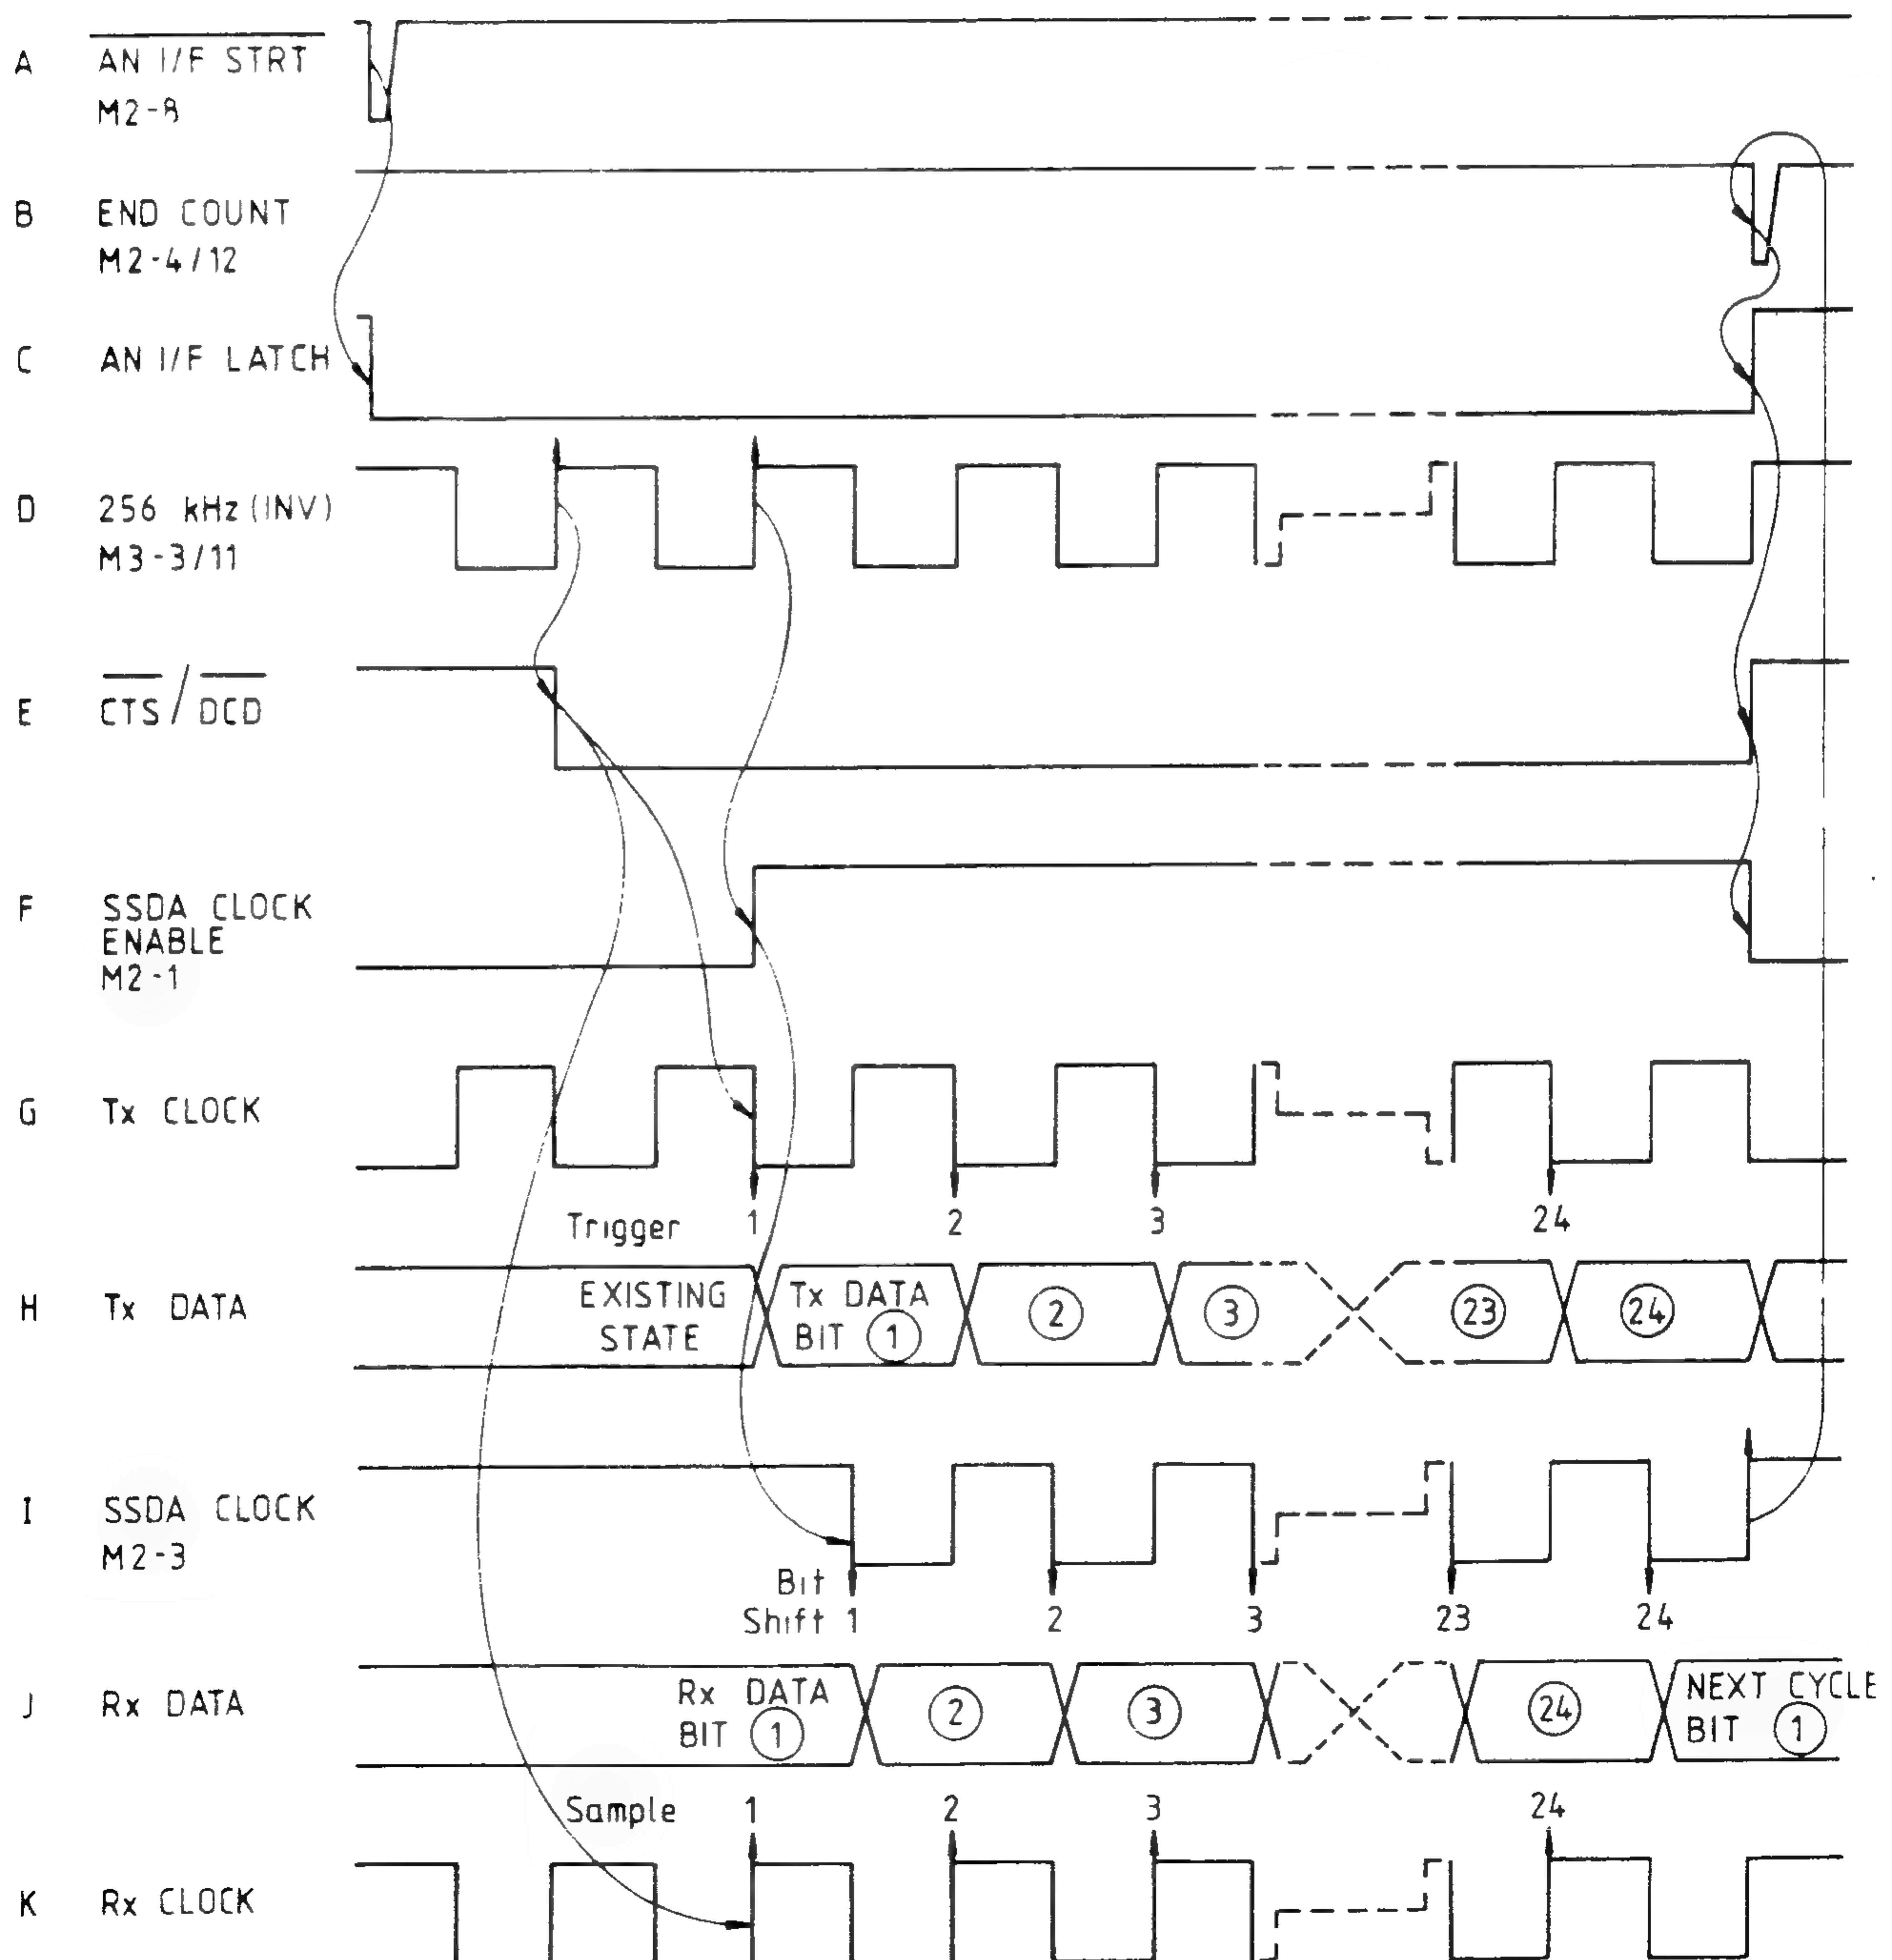

FIG. 6.16 SSDA CLOCK GENERATOR WAVEFORMS
(Fig. 6.16)
(Refer to Fig. 6.16 Waveforms G and H).
'Rx CLOCK' is an inverted version of the 256kHz squarewave. After $\overline{\text{DCD}}$ is set to Logic-0, the positive transition of the first full Rx clock cycle triggers the SSDA. The SSDA thus samples the first Rx data bit before the SSDA clock triggers the shift registers. (Fig. 6.16 Waveforms K and J).
(Refer to Fig. 6.16 Waveform I).
- (Refer to Fig. 6.16 Waveforms A and C).
(Refer to Fig. 6.16 Waveforms D and E).
(Refer to Fig. 6.16 Waveforms D, F and I).
(Refer to Fig. 6.16 Waveforms I, B, C, E and F).